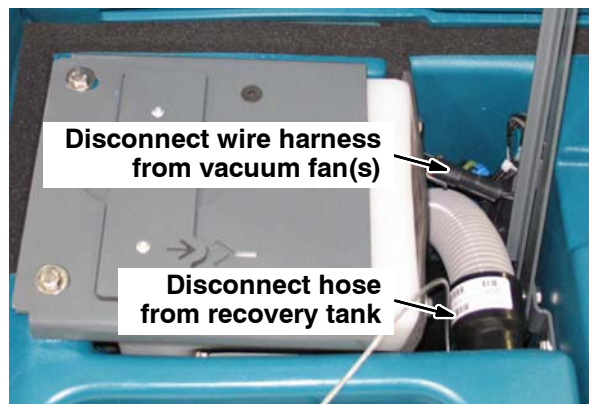

FIG. 1
1. **Machines equipped with the Single Vacuum Fan Kit only:** Disconnect the wire harness from the vacuum fan. Refer to Fig. 1.
Machines equipped with the Heavy Duty Vacuum Fan Kit only: Disconnect the wire harness from both vacuum fans. Refer to Fig. 1.
2. Disconnect the hose from the recovery tank. Refer to Fig. 1.
8. Reconnect the hose to the recovery tank and the wire harness to the vacuum fan(s). Refer to Fig. 1.